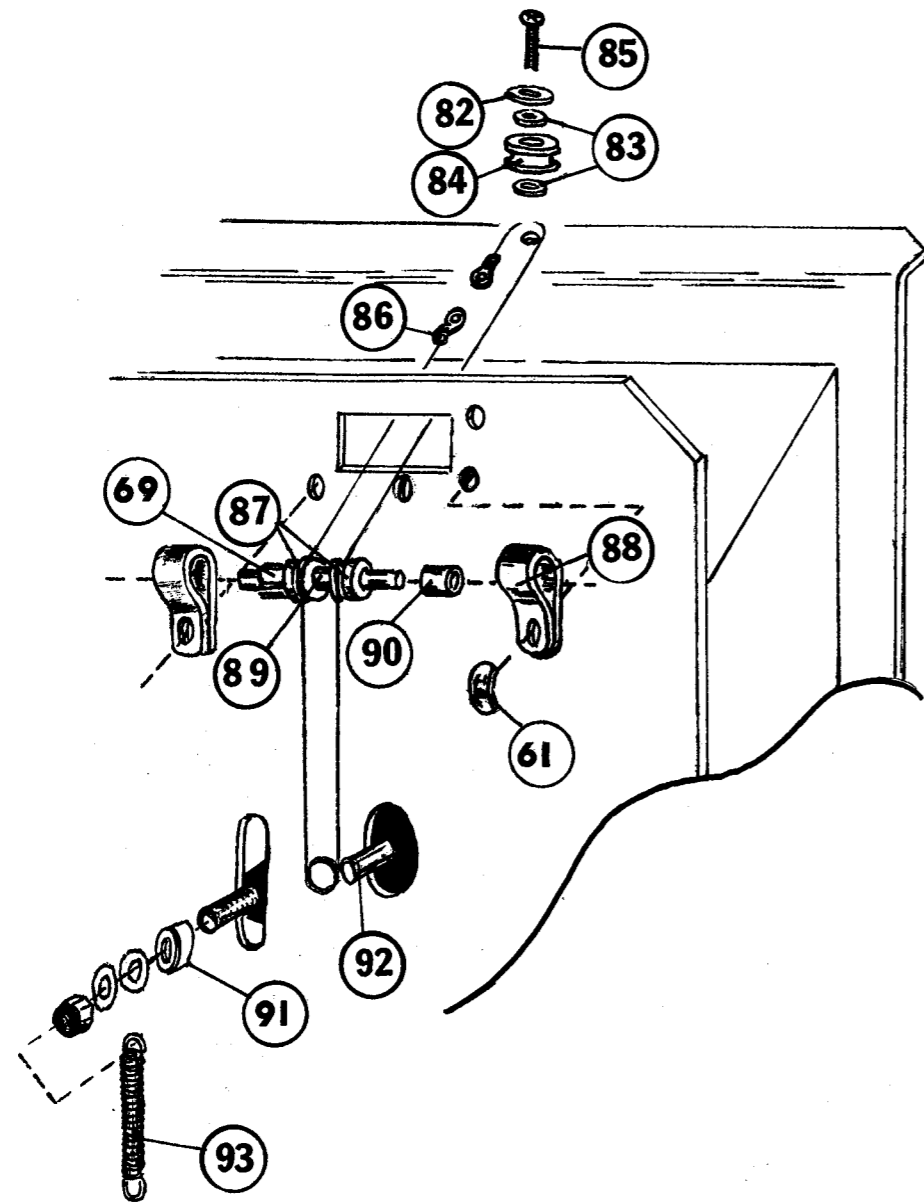

FIG. 11
1. Insert at least ten (10) different quarters into the coin slot to insure that the coin mechanism works properly, and that foreign objects are not present in the coin chutes.
3. Inspect the condition of the pen string (see Figure 11, Item #86). The string should be running over all three pulleys. Enter a coin and check to see that all three pulleys turn smoothly.